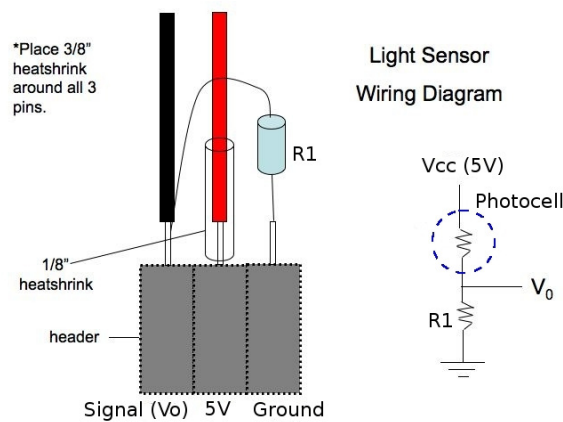

Figure 1: Wiring diagram of the light sensor.
1. Consult the wiring of the light sensor on the exemplar, and Figure 1.
4. Using Figure 1 and the exemplar robot as guides, build and mount two light sensors to your robot's frame. For each sensor, connect the 3-pin female header to either channel 0 or 1 of the ADC ports on the  $\mu$ ORCboard. Be careful to observe the polarity of the connector as well as the male header on the  $\mu$ ORCBoard. If you have questions, consult the exemplar robot.